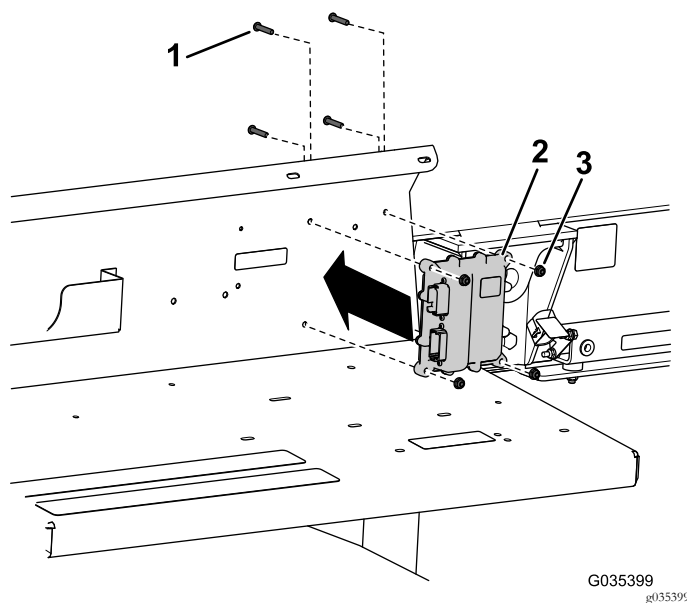

Figure 6
3. Install the controller onto the fender guard with 4 cap screws (1/4 x 1-1/4 inches) and 4 nuts (1/4 inch) as shown in Figure 6.
Important: Make sure that you install the screws in the appropriate direction; refer to Figure 6. If the screws are installed in the wrong direction the hopper will hit them when it is lowered.